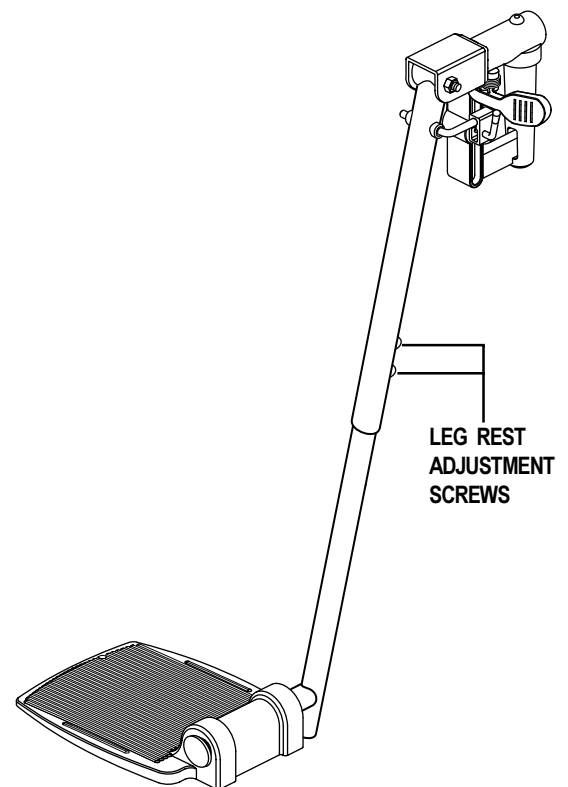

Figure 15. Elevating Leg Rests (Swing-away is similar.)
1. Remove the two screws from the side of each leg rest extension. See figure 15.